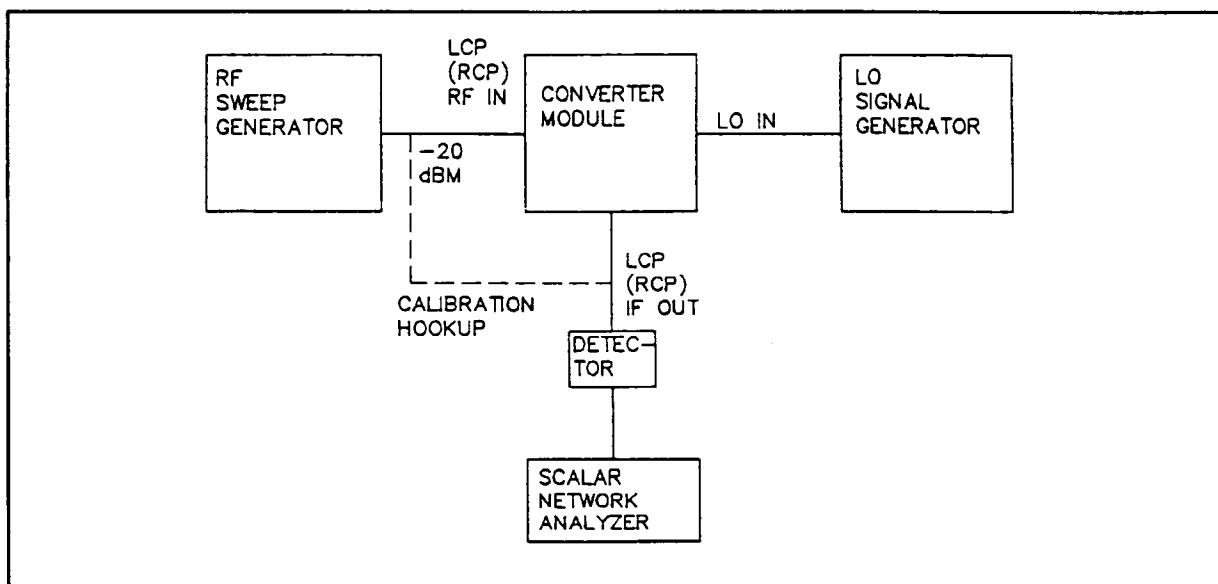

Figure 7 Test Setup for LO Power, Gain and Flatness
1. Refer to Figure 7, below. Connect the sweeper and SNA as detailed in the manufacturer's instructions. Set the sweeper to sweep the RF input band at a power level of about -20 dBm and calibrate the SNA with the detector connected to the sweeper output.